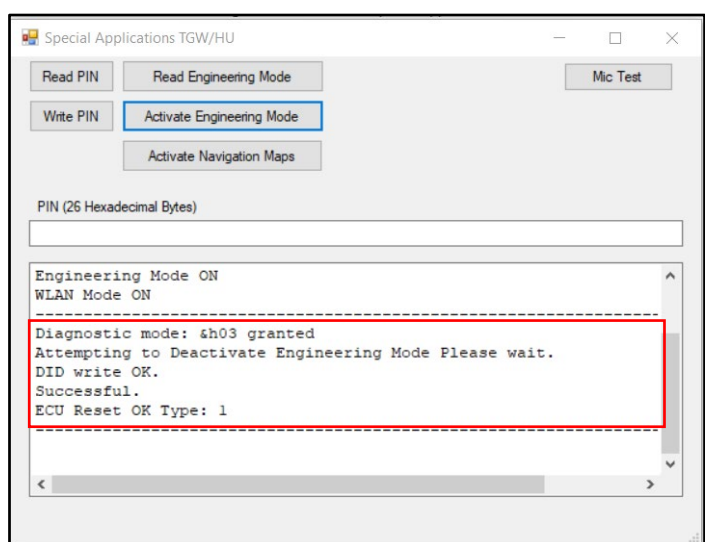

Figure 17
- 29. Check 'Engineering Mode' is off. (refer to Figure 17).